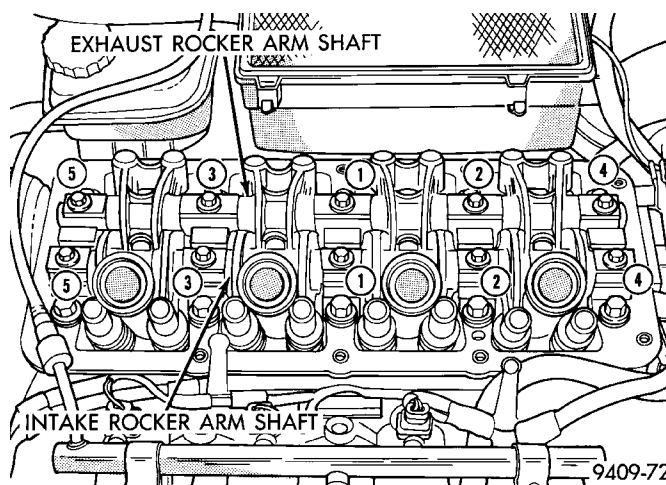

Fig. 24 Rocker Arm Shaft Tightening Sequence
(1) Lubricate camshaft journals. Install camshaft into the cylinder head carefully.
(2) Install cam sensor and tighten fasteners to 9.5 N·m (85 in. lbs.).
(3) Install camshaft seal. Camshaft must be installed before the camshaft seal is installed. Refer to procedure outlined in this section.
(4) Install camshaft sprocket and tighten to 115 N·m (85 ft. lbs.).
(5) Install timing belt. (Refer to procedure outlined in this section).
(6) Install rocker arm assemblies in correct order as removed. Tighten the rocker arm assemblies in sequence shown in (Fig. 24) to 23 N·m (200 in. lbs.).